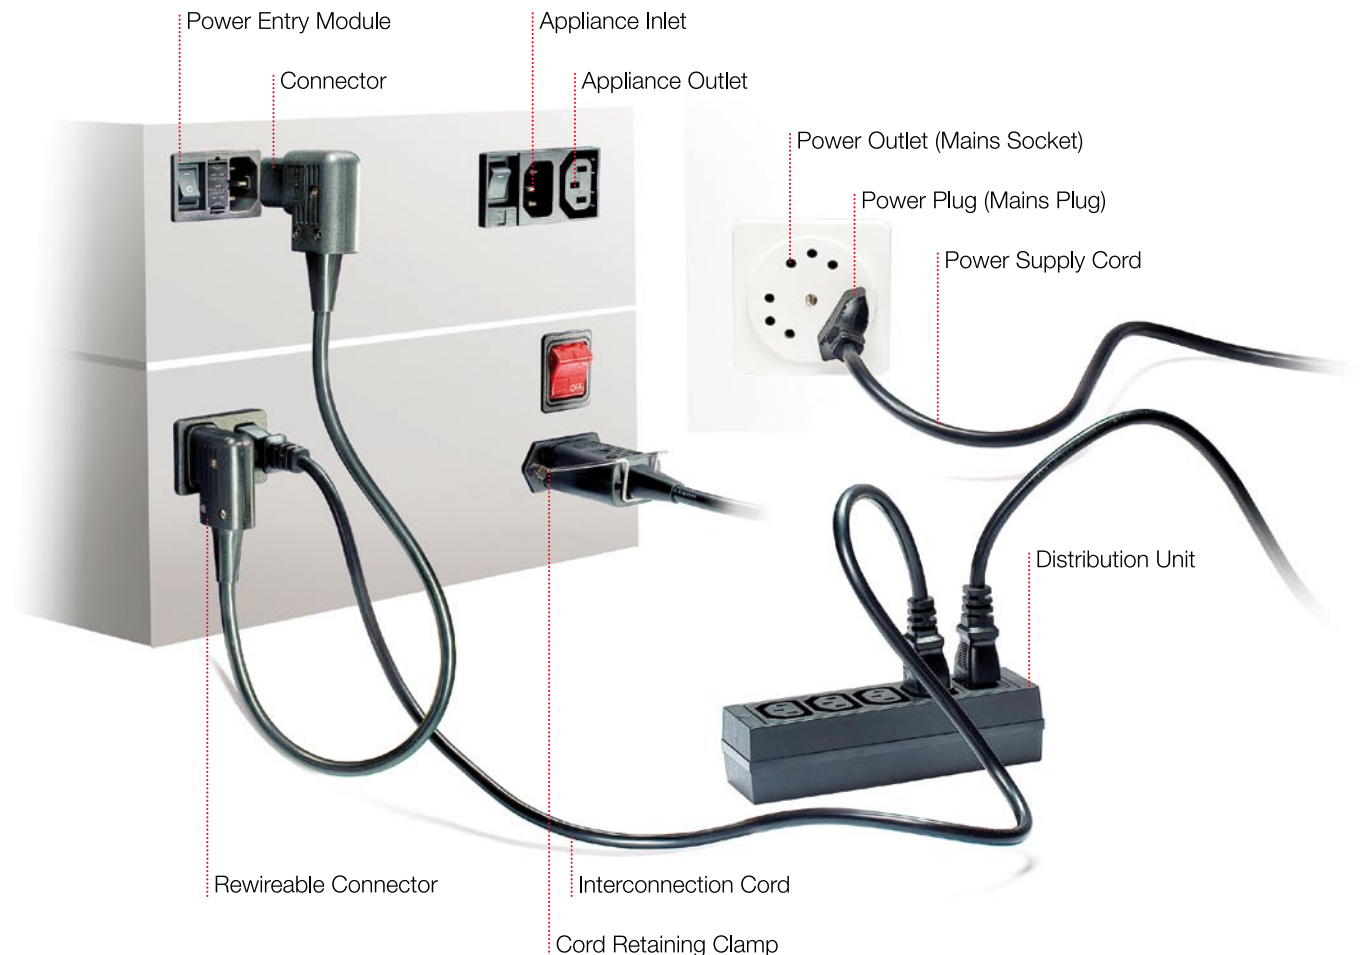

Figure 1: Application example including correct terms
Figure 1 illustrates the great variety of pluggable power supply systems (appliance couplers) and shows its different components.
**The individual terms shown in figure 1 are explained following**